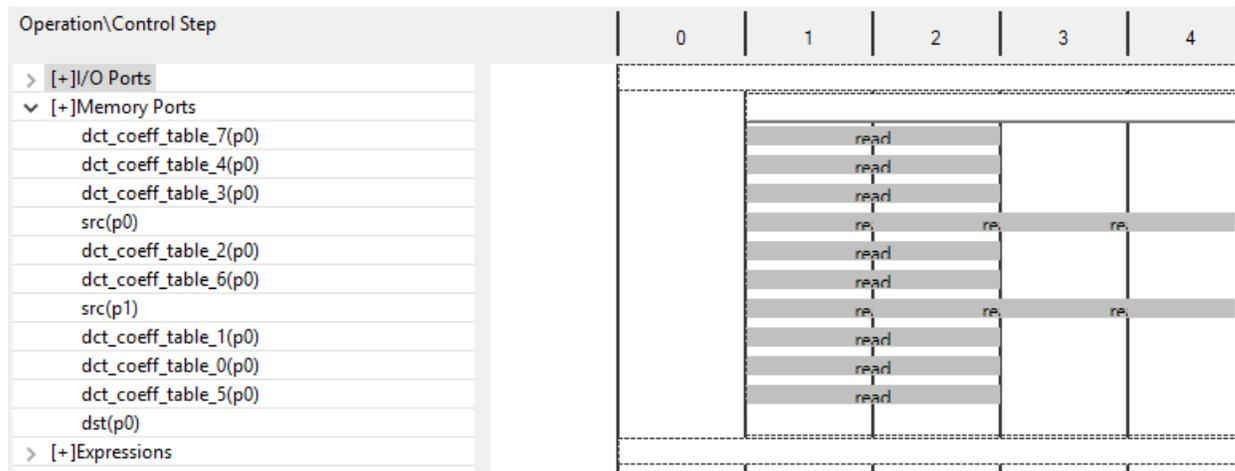

Figure 6-23: Resource Sharing of Memory Ports in DCT\_1d
15. Expand the Memory Ports, as shown in Figure 6-23.
The rows list the resources in the design. In Figure 6-23, the memory resources are expanded.
Figure 6-23 shows the memory accesses on block RAM `src` are being used to the maximum in every clock cycle. (At most, a block RAM can be dual-port and both ports are being used). This is a good indication the design may be bandwidth-limited by the memory resource. To determine if this really is the case, you can examine further.